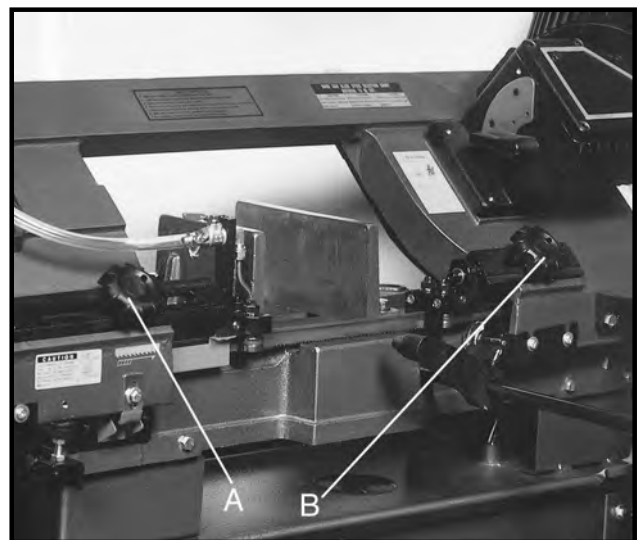

Fig. 4
2. Loosen knob (A, Fig. 4) and Knob(B). Slide blade guide assemblies as close as possible to the material without interfering with the cut.
3. Tighten knob (A) and knob(B) and connect machine to the power source.